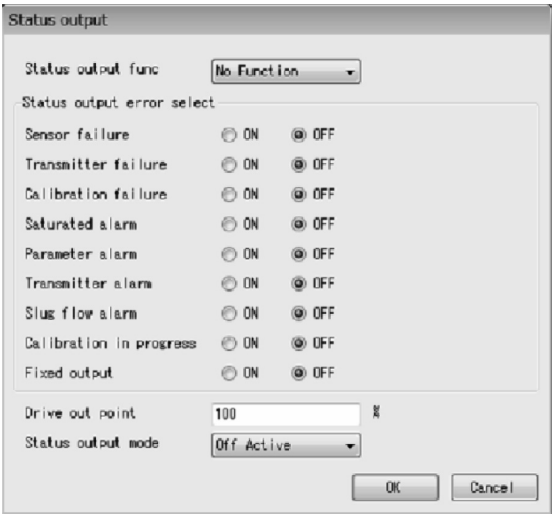

Fig.45
- ① Click the "Setup (S)" menu, and then select and click "Pulse output 2" from the "Outputs" drop-down list.
- ② "Pulse output 2" can be set by following the same procedures as described in 3.6.2.4 "Pulse output 1", steps ② to ⑤ .
- ① Click the "Setup (S)" menu, and then select and click "Status output" from the "Outputs" drop-down list.
- ② The following window will be displayed (Fig. 45). Set the status output function here.